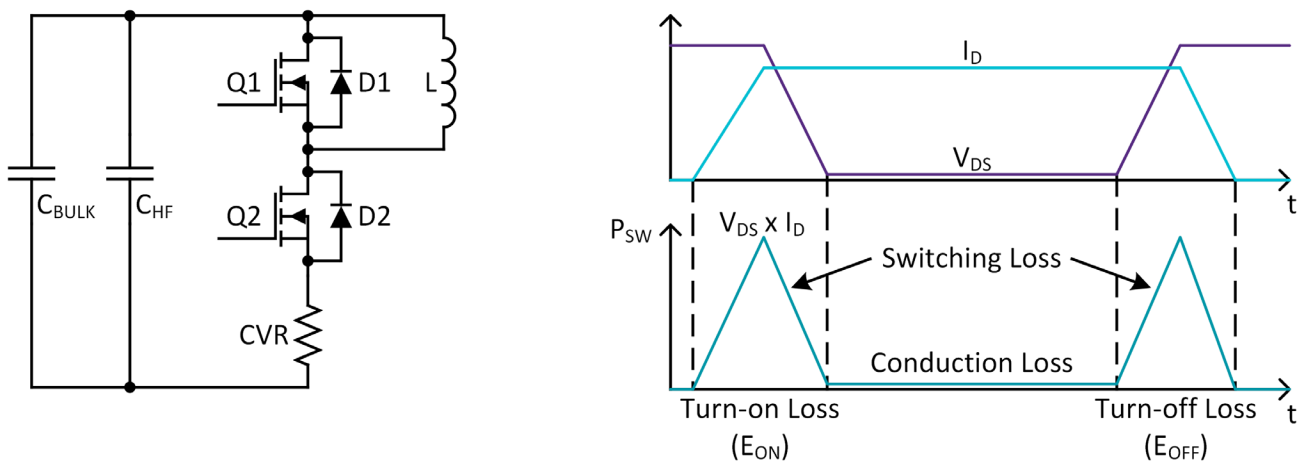
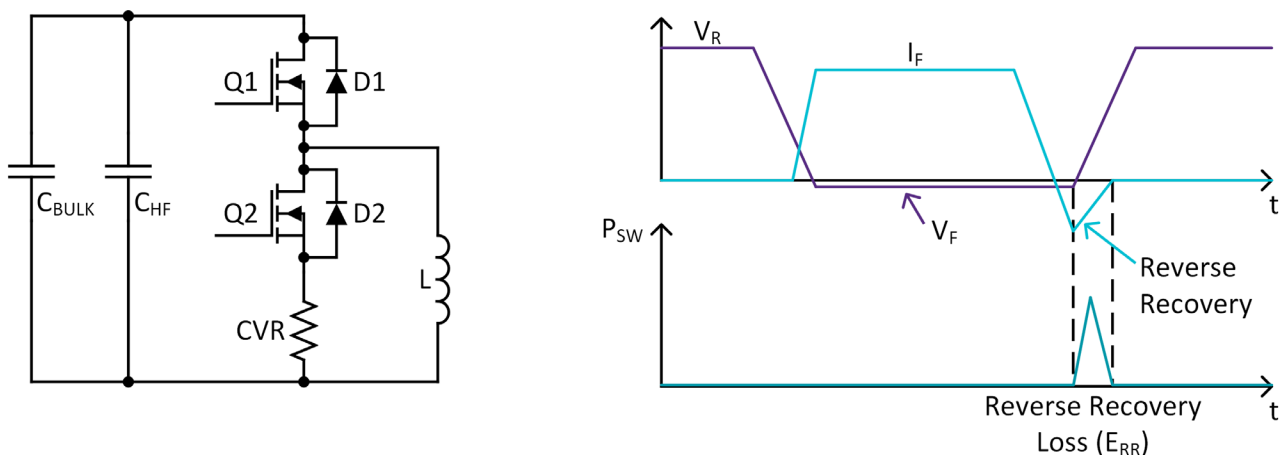

Figure 6: CIL test fixture used to measure the switching loss of MOSFET Q2
Figure 7: CIL test fixture used to measure the switching loss of body diode D2
For half-bridge modules, the test fixtures to measure both events are given below in Figure 6 and Figure 7, respectively. Q1 and Q2 represent the respective switch positions of the Wolfspeed half-bridge power module. Likewise, D1 and D2 represent the intrinsic body diodes of each switch position. Some modules may include embedded Schottky diodes in parallel with the MOSFET. For both tests, film capacitors (C_{BULK}) are used for bulk energy storage to provide the needed energy transfer to the inductor (L) for the switching event, while high-frequency ceramic capacitors (C_{HF}) are used to provide a low-inductance switching loop. For MOSFET switching measurements in Figure 6, the inductor is connected across the upper switch position of the module from the midpoint to the positive bus rail while Q1 is held off and Q2 is pulsed; for body diode switching measurements in Figure 7, the inductor is connected across the lower switch position of the module to the negative bus rail while Q1 is pulsed and Q2 is held off.
For six-pack power modules, the test fixtures to measure both events are given below in Figure 6 and Figure 7, respectively for the “W” phase leg. Phase legs “U” and “V” are inactive in this example and are configured to remain off during testing to avoid affecting the measurements of the active switch positions. Q5 and Q6 represent the selected switch positions of the Wolfspeed six-pack power module. Likewise, D5 and D6 represent the intrinsic body diodes of each switch position. For both tests, film capacitors (C_{BULK}) are used for bulk energy storage to provide the needed energy transfer to the inductor (L) for the switching event, while high-frequency ceramic capacitors (C_{HF}) are used to provide a low-inductance switching loop. For MOSFET switching measurements in Figure 6, the inductor is connected across the upper switch position of the phase leg from the “W” midpoint to the positive bus rail while Q5 is held off and Q6 is pulsed; for body diode switching measurements in Figure 7, the inductor is connected across the lower switch position of the phase leg to the negative bus rail while Q5 is pulsed and Q6 is held off.